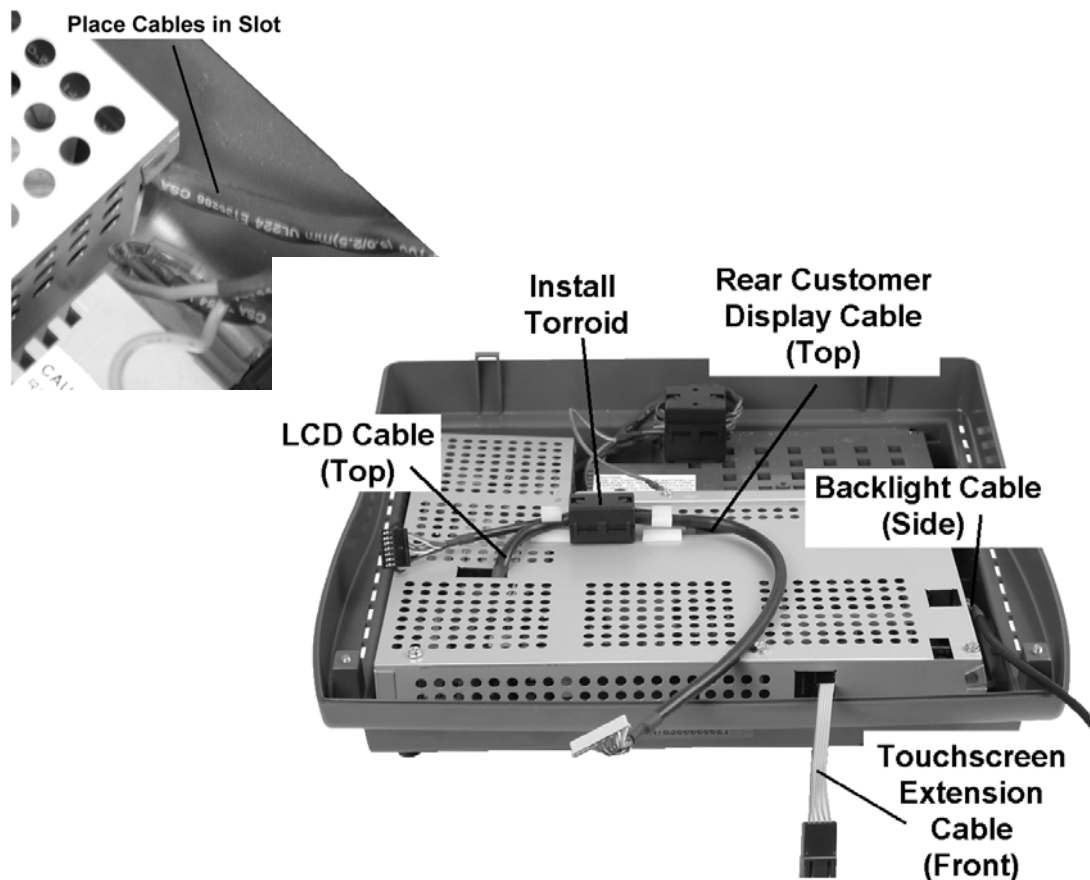

Figure 3-21: Routing cables through the RF Shield
2. Reinstall the RF Shield. Figure 3-21 shows the details.